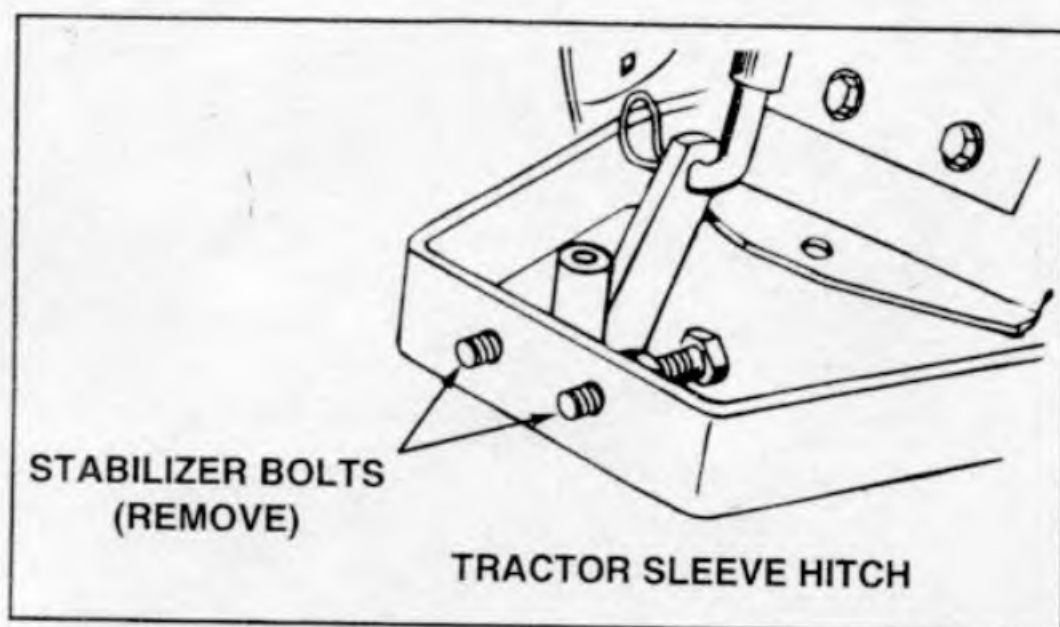

FIGURE 7
1. Remove the stabilizer bolts from the tractor's sleeve hitch as shown in figure 7 to allow side to side motion of the disk cultivator.